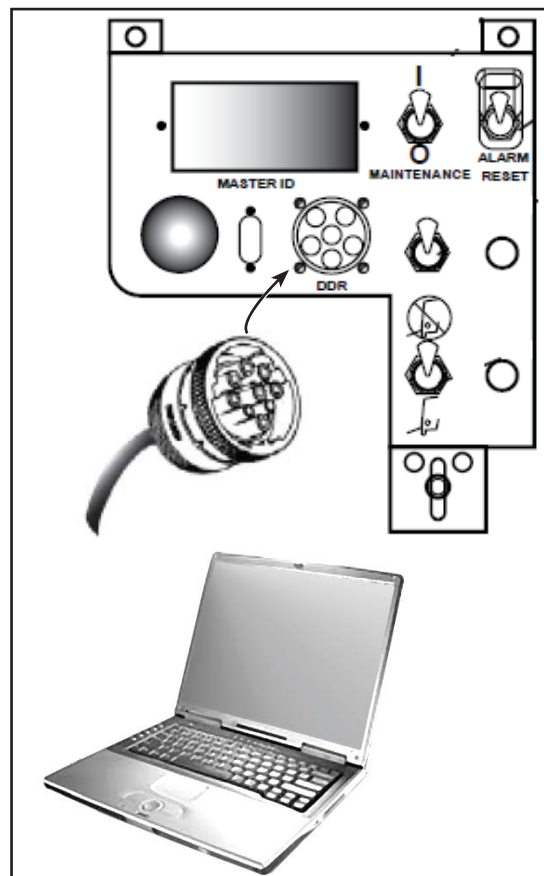

Figure 1 - Connecting Laptop to the DDU Connector
- 1.3. Connect the laptop to the DDR connector (see Figure 1).